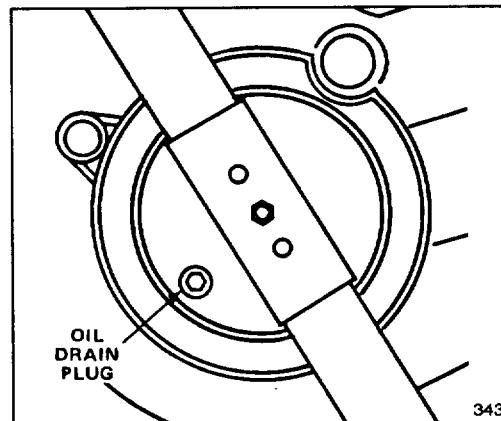

Figure 23
3. Tip mower on its right side. Remove drain plug from underside of mower using an adjustable wrench (Fig. 23). Place a drain pan under mower.